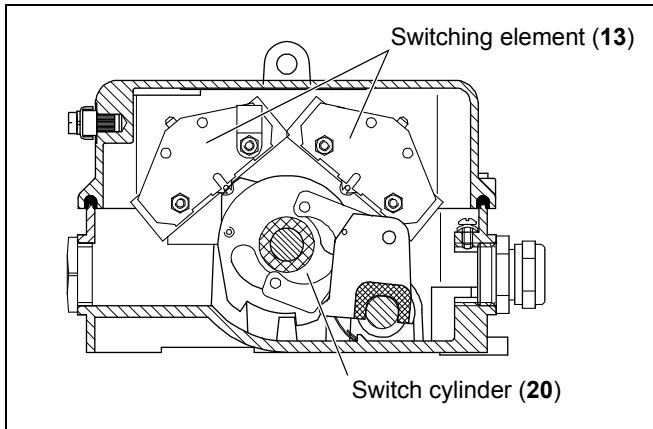

Fig. 3-2: Switch cylinder and switching elements
Actuating the trigger lever (1) by using the pull wire (3) causes the switch cylinder (20) to move to the "Off" position, and the trigger lever (1) is decoupled (see fig. 3-2). No further switching operation is then possible.